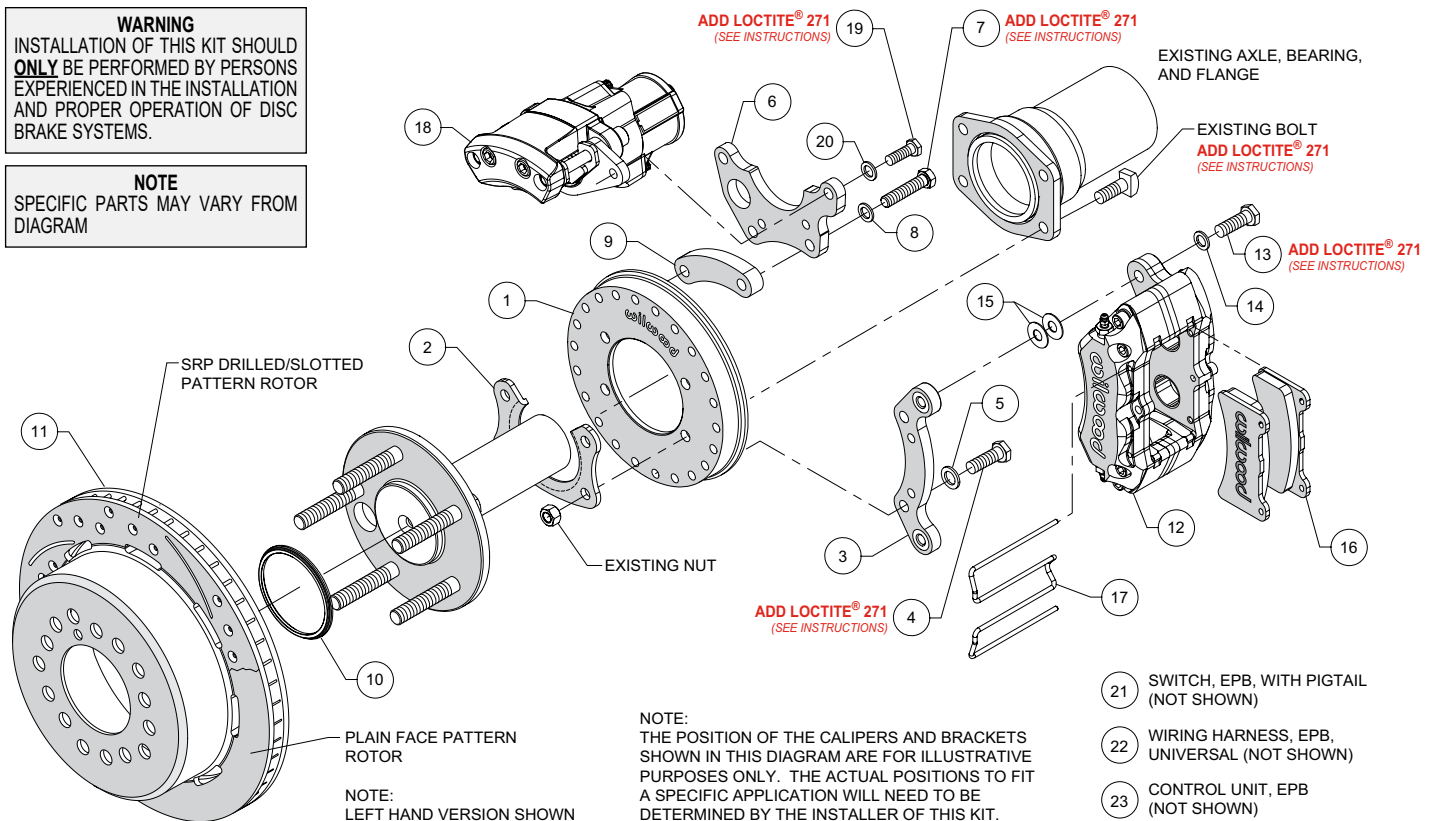
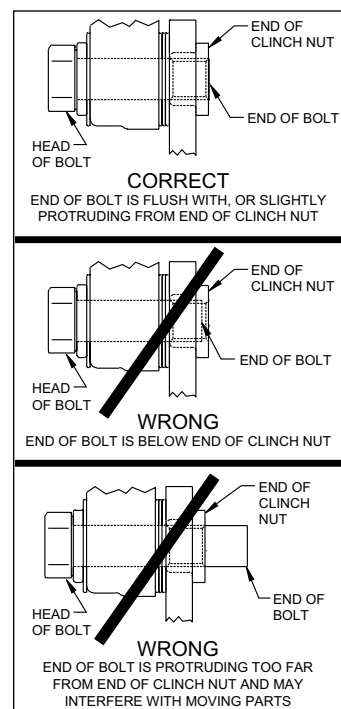

Figure 1. Typical Installation Configuration
Figure 5. Clinch Nut Engagement Diagram
NOTE: Numbers in parenthesis refer to the parts list and Figure 1 on the preceding pages.
CAUTION: All mounting bolts must fully engage clinch nuts. Be sure to check that all bolts are either flush or protruding through flanged side of clinch nut after shimming, Figure 5.
- Orient the backing plate (1) as shown in Figure 1 and Photo 1, and slide it onto the axle housing flange. Ensure the backing plate fits flush against the axle housing flange. Reinstall the axle into the axle housing.
- Install the bearing retainer (2) with the opening pointing upward and the lip facing inward (toward the bearing), as shown in Figures 1 and 4, and Photo 2. Secure retainer and backing plate to the axle housing flange using the Original Equipment Manufacturer (OEM) bolts and nuts, Figure 1 and Photo 3. Apply red *Loctite*® 271 to the OEM bolt threads and torque to OEM specifications.
- Start by determining the best location for the service caliper (12). This caliper is usually mounted in the 3:00 or 9:00 o'clock position, but may be rotated up or down approximately 45 degrees and still allow for proper bleeding, Photo 4. Orient the service caliper bracket (3) as shown in Figure 1 and Photo 5, and install to the backing plate (1) in the desired location using bolts (4) and washers (5). Temporarily tighten bolts. Next, mount the service caliper to the bracket using bolts (13) and washers (14). Temporarily tighten bolts. Check that the caliper (including inlet fitting and hose) has sufficient clearance to all surrounding components through the full suspension travel. Relocate the caliper/bracket on the backing plate as needed to ensure proper clearance is achieved.
- Determine the best location for the EPB caliper (18). **NOTE:** *The EPB caliper motor extends farther inboard than the service caliper and therefore needs additional consideration when determining a mounting location with sufficient clearance.* In the example application shown in Photo 6, the EPB caliper has sufficient inboard clearance to the leaf spring. However, if the EPB caliper were mounted closer to the 12:00 o'clock position, the inner body of the vehicle would hit the caliper during full compression of the suspension.
•Orient the EPB caliper bracket (6) as shown in Figure 1 and Photo 7, and install to the backing plate (1) in the desired location using bolts (7), washers (8), and spacer (9). Temporarily tighten bolts. **NOTE:** The EPB bracket is reversible. In one direction the bracket will position the EPB caliper closer to the service caliper, and vice versa if reversing the bracket. Next, mount the EPB caliper (18) to the bracket using bolts (19) and washers (20). Temporarily tighten bolts. **NOTE:** EPB calipers are Left and Right handed, however they can be used on either side of the vehicle to best suit your specific application. Check that the EPB caliper (including wiring harness connector) has sufficient clearance to all surrounding components through the full suspension travel. Relocate the EPB caliper/bracket on the backing plate as needed to ensure proper clearance is achieved.
•Once the caliper positions have been determined, remove both the service (12) and EPB (18) calipers, leaving both brackets in place on the backing plate. For both brackets, remove the bolts one at a time, apply red *Loctite*® 271 to the threads, and torque to 35 ft-lb.
•Slide the rotor registration adapter (10) onto the register on the axle flange with the smaller O.D. facing toward the rotor/hat (11), Photo 8. Align the correct hole pattern in the rotor/hat with the stud pattern on the axle flange and slide into place, Figure 1. **NOTE:** The rotor/hat must fit flush against the axle flange or excessive rotor run out may result. Install three lug nuts (finger tight) to keep the rotor/hat assembly in place while continuing with the installation. **NOTE:** Some OEM and after market axles come with stud sizes larger than 0.50" diameter. Verify stud size and have a qualified machine shop drill the bolt circle of the hat/rotor to the correct stud size, if necessary.
•**NOTE:** Please reference the caution statement at the beginning of the assembly instructions. Remount the service caliper (12) onto the caliper mounting bracket (3) using bolts (13) and washers (14), as shown in Figure 1. Initially place two .035" thick shims (15) on each bolt between the caliper and the bracket, Photo 9. Temporarily tighten the mounting bolts and view the rotor (11) through the top opening of the caliper. The rotor should be centered in the caliper, Photo 10. If not, adjust by adding or subtracting shims (15) between the bracket (3) and the caliper (12). Always use the same amount of shims on each of the two mounting bolts. **NOTE:** The end of each bolt must be flush with or slightly protruding from the head of the clinch nut, as shown in Figure 5. If necessary place spare shims (15) between washer (14) and caliper mounting ear to achieve the proper clinch nut engagement. Once the caliper alignment and clinch nut engagement are correct, remove the bolts one at a time, apply red *Loctite*® 271 to bolt threads, and torque to 40 ft-lb.
•Install the disc brake pads (16) into the service caliper (12), with the friction material facing the rotor (11), Photo 11. Secure the pads in place using pad clip retainer (17), Photo 12.
- Mount the EPB caliper (18) onto the caliper mounting bracket (6) using bolts (19) and washers (20), Figure 1. Apply red *Loctite*® 271 to bolt threads, and torque to 30 ft-lb.
•**NOTE:** *The service caliper (12) in this brake kit utilizes a 1/8-27 NPT pipe thread inlet. OEM rubber brake hoses generally cannot be adapted to Wilwood calipers. The preferred method is to use steel adapter fittings at the caliper, either straight, 45 or 90 degree (use PTFE tape on pipe threads of adapter fitting for proper sealing to caliper) and enough steel braided line to allow for full suspension travel. Carefully route hoses to prevent contact with moving suspension, brake or wheel components. NOTE: Wilwood hose kits are designed for use in many different vehicle applications and it is the installer's responsibility to properly route and ensure adequate clearance and retention for brake hose components. Wilwood offers universal brake flex line hose kits, domestic (3/8-24 IF) chassis fittings, order:*